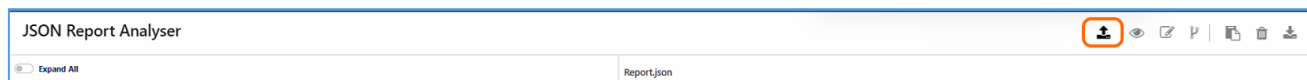

FIGURE 8.82: UPLOAD JSON REPORT ICON
1. Click on the Upload icon  at the top right of the *JSON Report Analyzer* screen as shown in Figure 8.82 below.